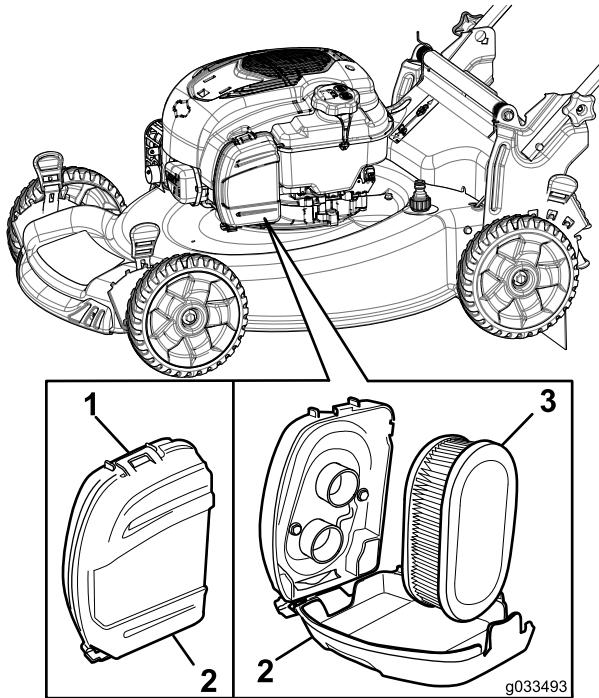

Figure 32
1. Unclip the top of the air-filter cover (Figure 32).
2. Remove the air filter (Figure 32).